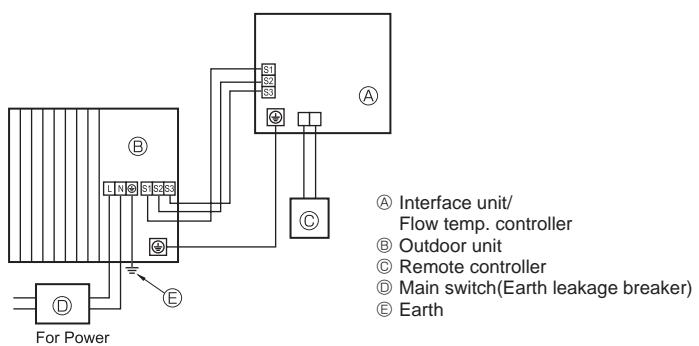
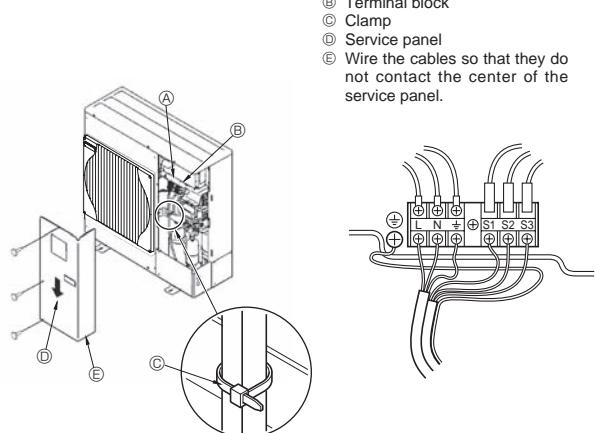

Fig. 6-1
Fig. 6-2
6.1. Outdoor unit (Fig. 6-1, Fig. 6-2)
- ① Remove the service panel.
② Wire the cables referring to the Fig. 6-1 and the Fig. 6-2.